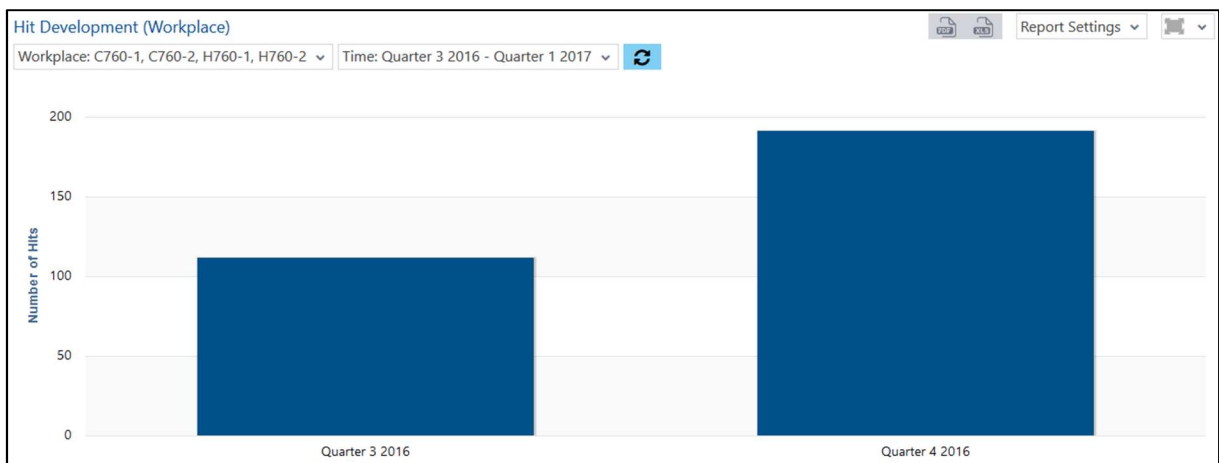

Fig. 92: Hit Development (Workplace) as a column chart
- Hit Development (Workplace) as a column chart (Fig. 92):